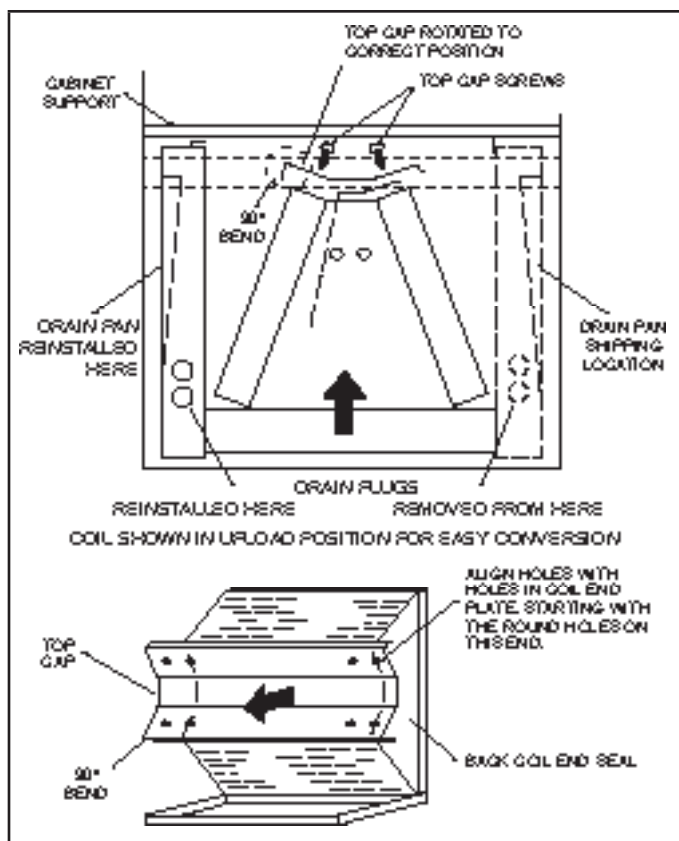

FIGURE 6. Field Modification for Left-Hand Discharge
- 7 - Rotate top cap 180° front-to-back and align with unused screw holes. Holes must align with front and back coil end plates. The top cap has a 45° bend on one side and a 90° bend on the other. **The 90° bend must be on the same side as the horizontal drain pan as illustrated in FIGURE 6.**
NOTE - Horizontal runs must have an anti-siphon air vent (standpipe) installed ahead of the horizontal run. See FIGURE 6. An extremely long horizontal run may require an oversized drain line to eliminate air traps.